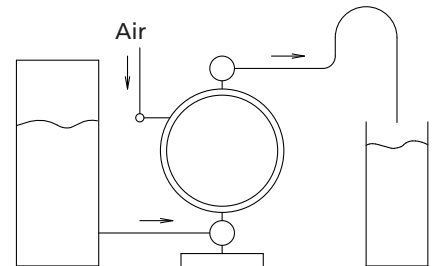

Figure 13
- Remove the retainer bolts from the outlet manifold, and remove the outlet manifold (See Figure 13-A or 13-B).